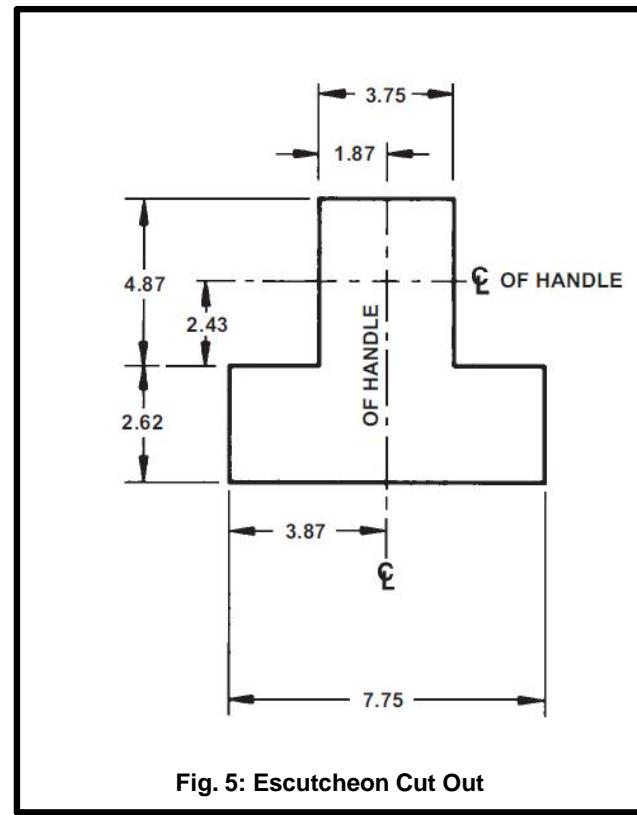

Fig. 5: Escutcheon Cut Out
- Replace all end plates (J) and line and load terminal shields (D). Tighten terminal shield screws securely.
- For escutcheon cut out refer to Fig. 5.